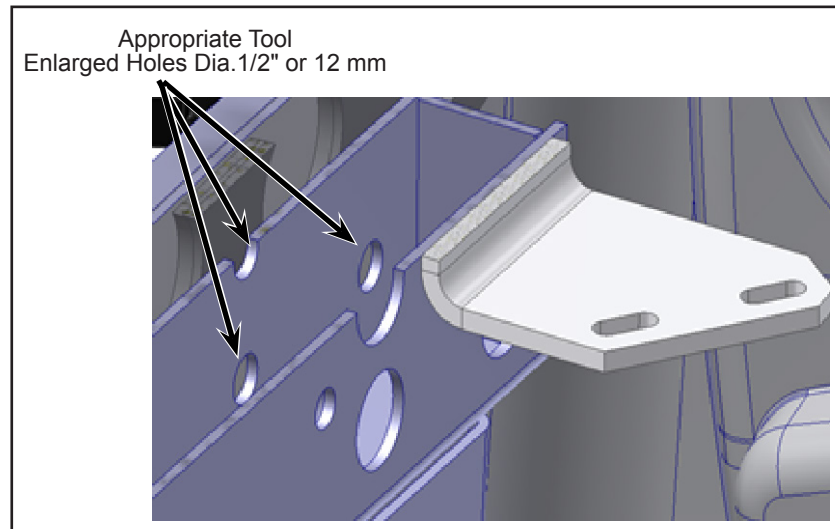

*Figure 16 - Typical View of Enlarged Holes on the Tube*
- 1.18. Enlarge existing (3x 1/4") holes in far side of the tube to 1/2" or 12mm dia using 1/2" or 12mm drill bit (see Figure 16). The use of bushing N83320 is permissible in order to ensure proper alignment.